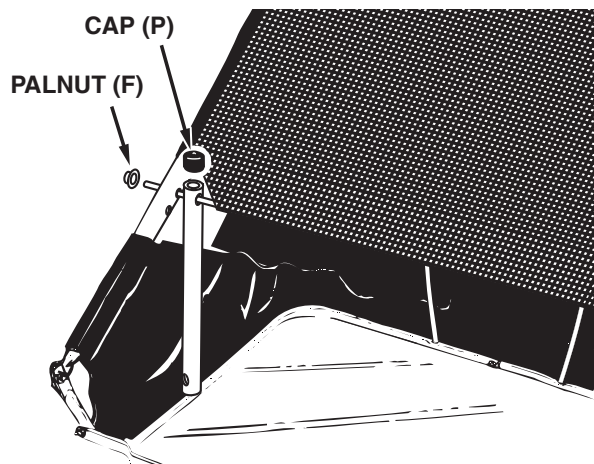

FIGURE 16
- Assemble two palnuts (F) by lightly tapping them onto the ends of the pivot rod with a hammer. See figure 16.